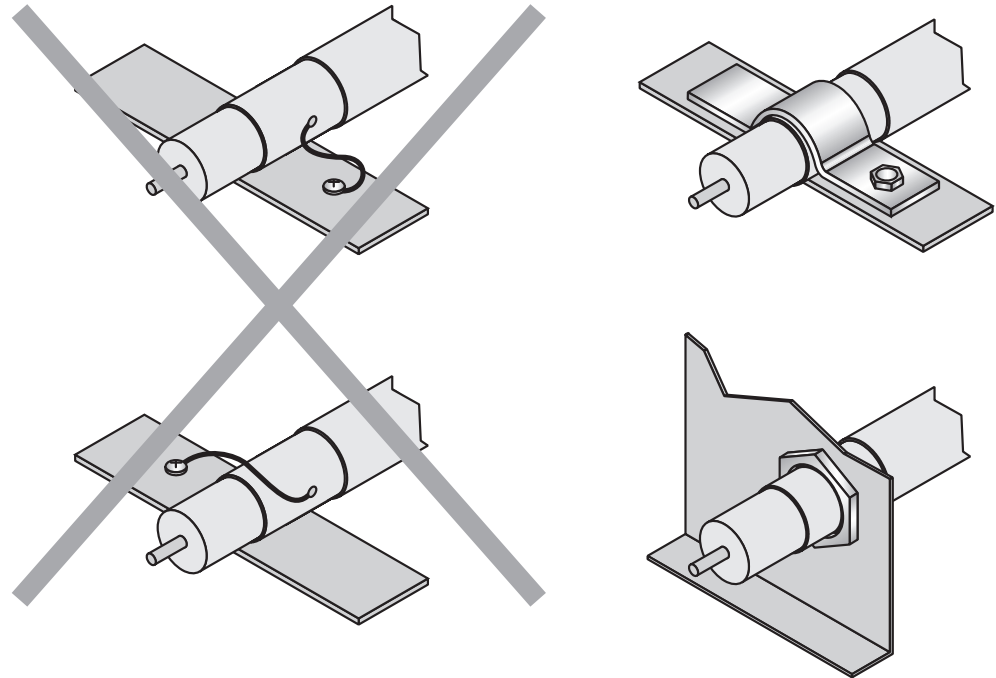

Figure 7: Make an extensive and low-impedance ground connection of the cable shield in the control cabinet.
- The cable shield in the control cabinet must be connected to a large area of the signal ground, see figure 7.